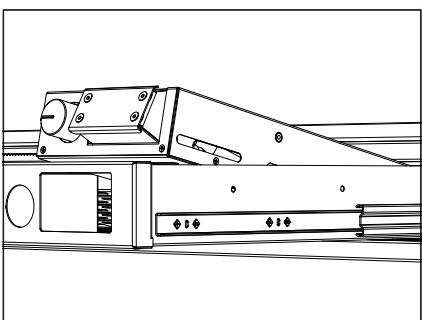

FIGURE 11
7. Tilt the SBI up according to Figure 11 and pull it out through the top of the drawer.